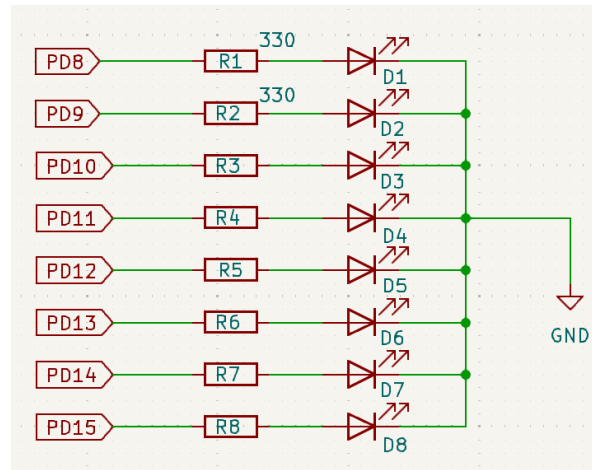

Figure 1: Connecting
- Assemble the circuit to connect a row of 8 single LEDs to GPIO pins PD8 to PD15 of the STM32F429 board according to the diagram in Figure 1.